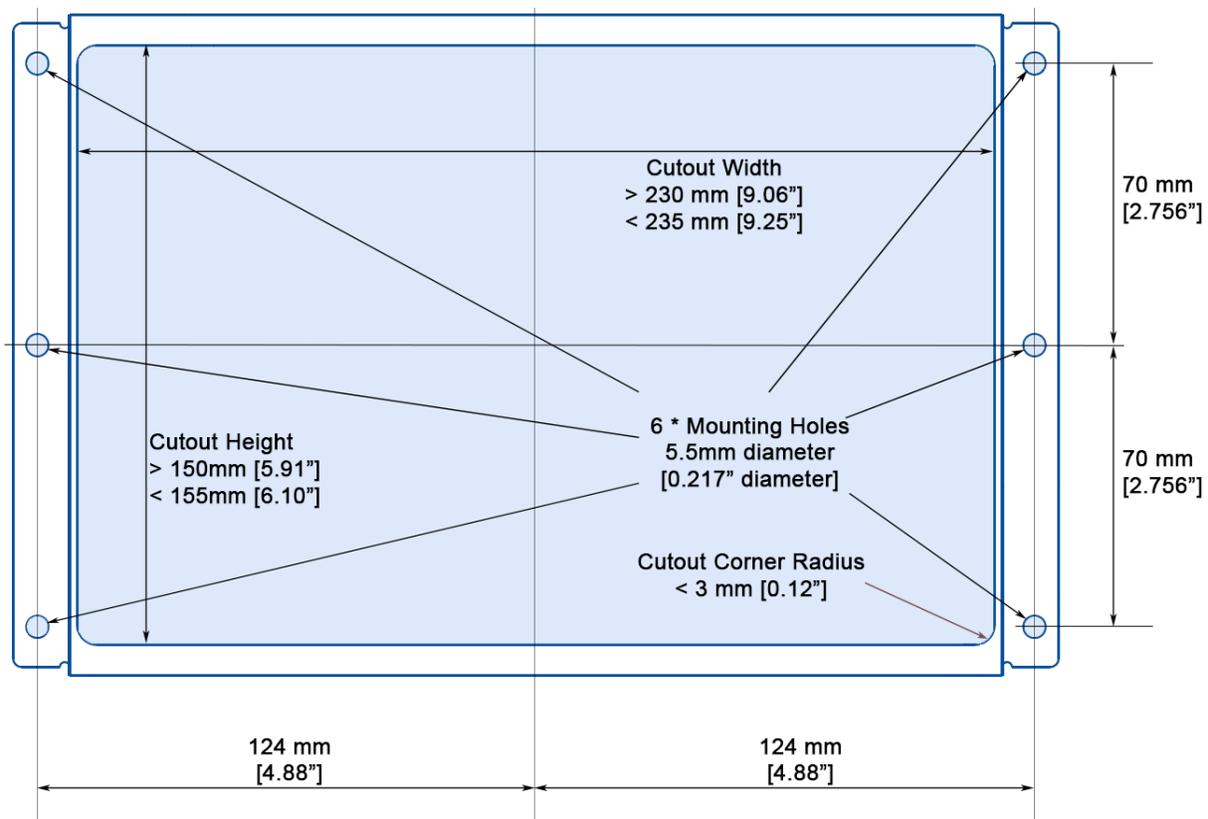

Figure 2 – TSM810C Cutout Dimensions (not to scale)
Step 2: Cut out a section from the panel that corresponds to the rear panel dimensions of the TSM810C. Take care that the panel section that is cut out is smaller than the overall size of the front panel of the TSM810C but just large enough for the rear panel of the TSM810C to fit through, according to the dimensions in Figure 2 above.
Step 4: Drill six 5.5mm holes for the mounting screws according to the dimensions in Figure 2 above.